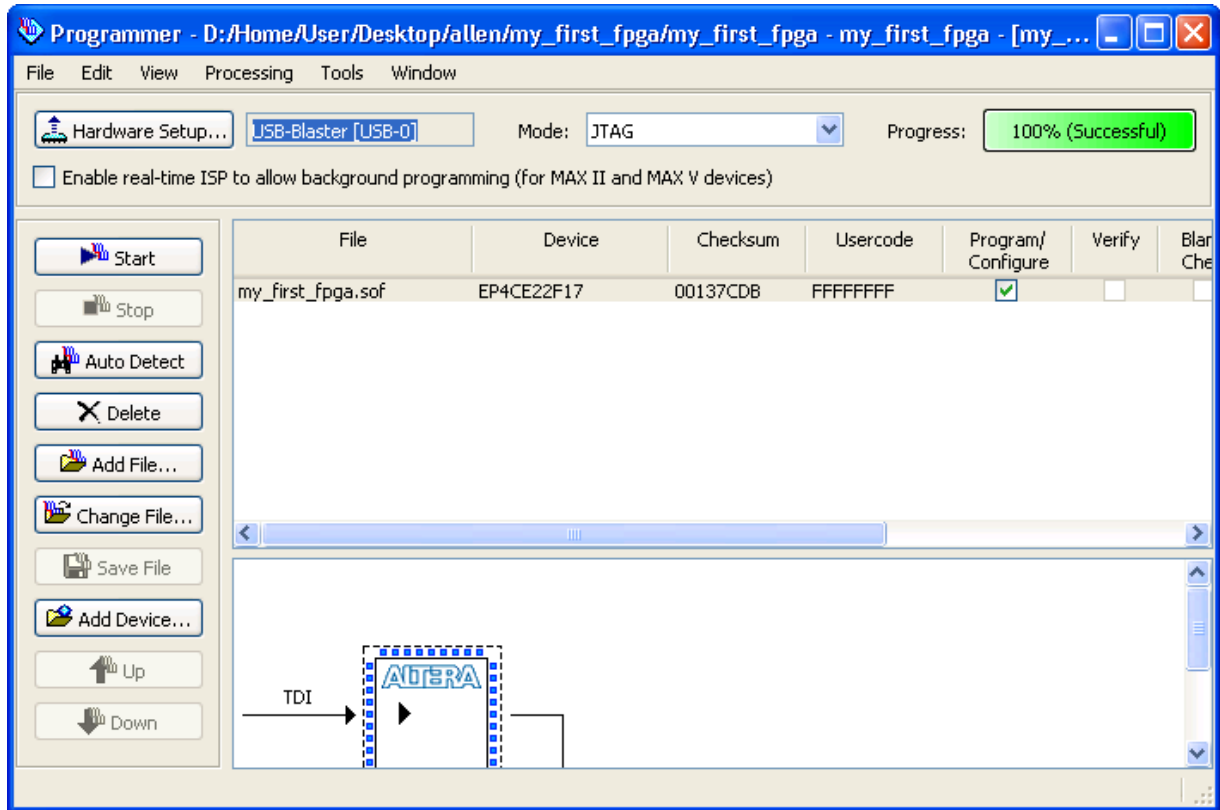

Figure 6-48 Downloading Complete
6. Select the my\_first\_fpga.sof file from the project directory (see **Figure 6-48**).